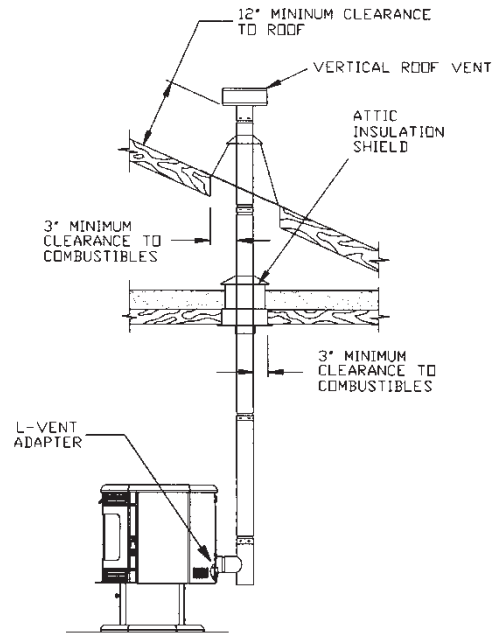

FIGURE 9
A. VERTICALLY WITH NEW CHIMNEY SYSTEM (Refer to Figure 9)